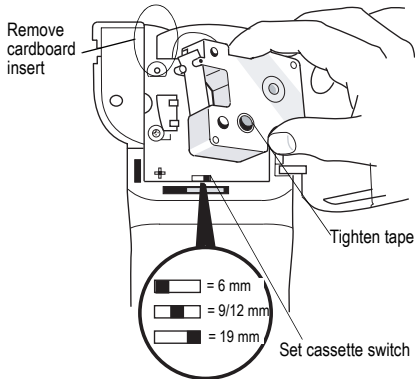

Figure 4
⚠ The first time you use the printer, remove the protective cardboard insert from between the print head and pinch roller. See Figure 4.
2. Set the cassette switch for the size of the tape cassette that you are inserting. See Figure 4. A notch in the cassette fits over the switch when the cassette is in the correct position.